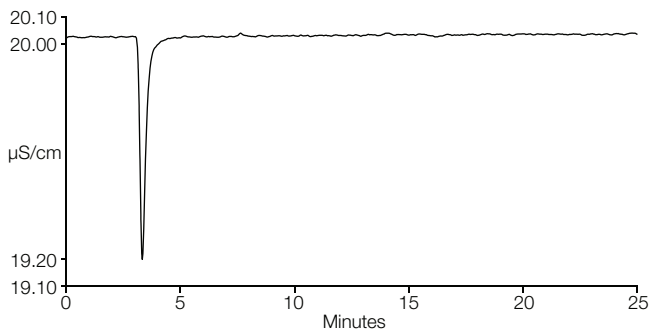
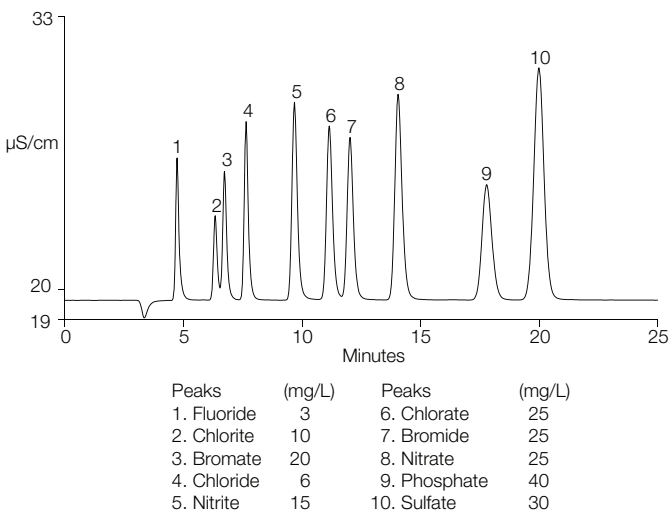

Figure 3. Chromatogram of DI water blank on a Dionex IonPac AS23 column.
Figure 4. Chromatogram of the QAR standard on a Dionex IonPac AS23 column.
9. Run DI water (Figure 3) and test standards (Figure 4). Continue making injections of the test standard until consecutive injections of the standard give reproducible retention times (RTs). Equilibration is complete when consecutive injections of the standard give reproducible RTs.